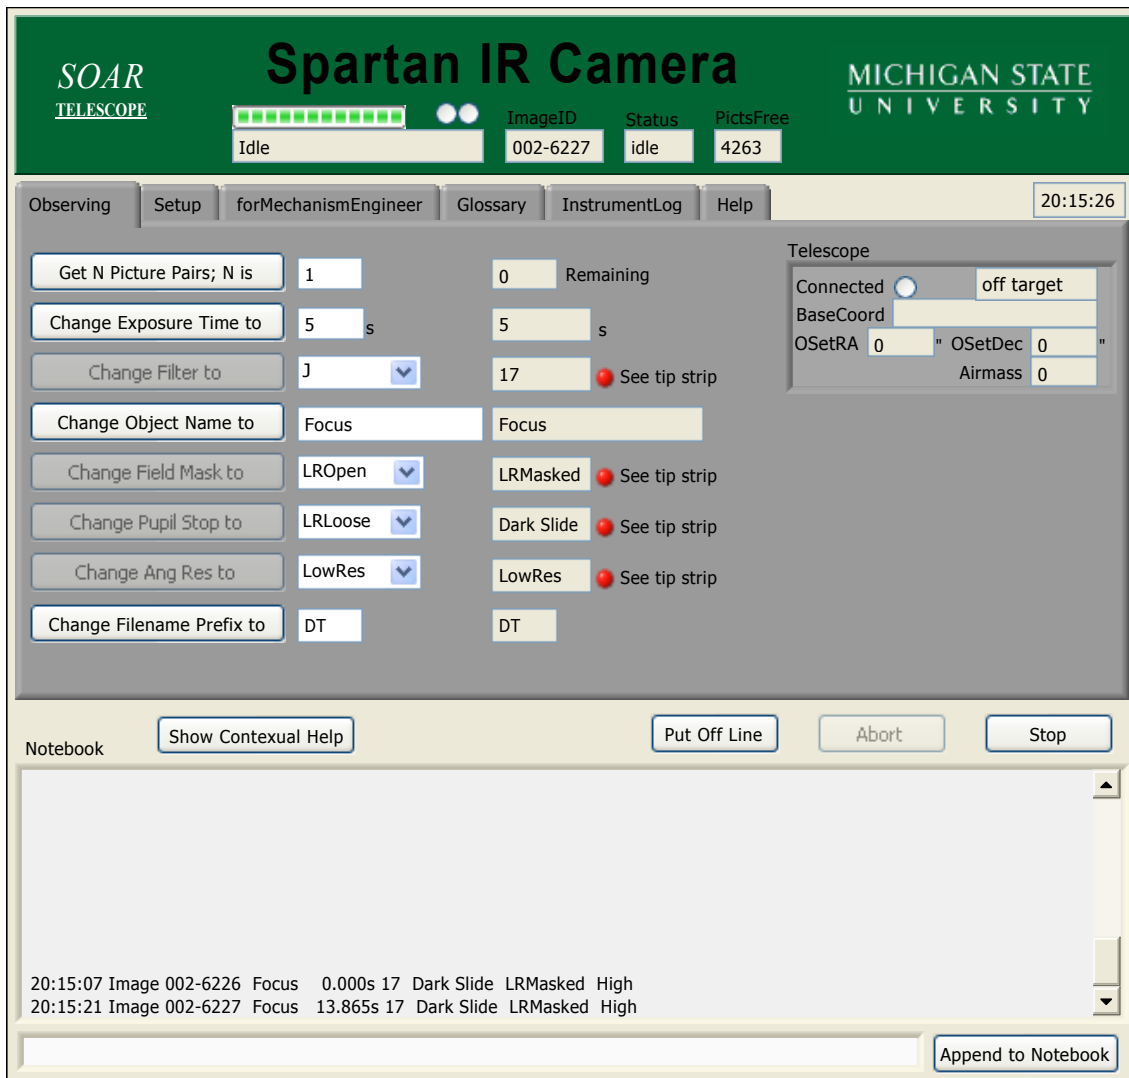

Figure 1: SpartanGUI, the graphical interface of the software, with the observing panel selected.
**SpartanGUI** is the control panel for the observer and the engineer. In normal operation, the observer need only look at this window. Status information is in the top section. The observing functions are in the observing panel. The notebook maintains a record of the observations; the observer can log comments in the notebook. To start the software, open `\homeSpartan\SpartanGUI.vi`, and the window in Figure 1 should appear. Then select the **Help** tab control for instruction. SpartanGUI has several tab controls.
**Observing** (Figure 1) is for the observer. The observer presses buttons on SpartanGUI to set exposure time, take pictures, change filters, and switch between the wide-field and high-res modes.